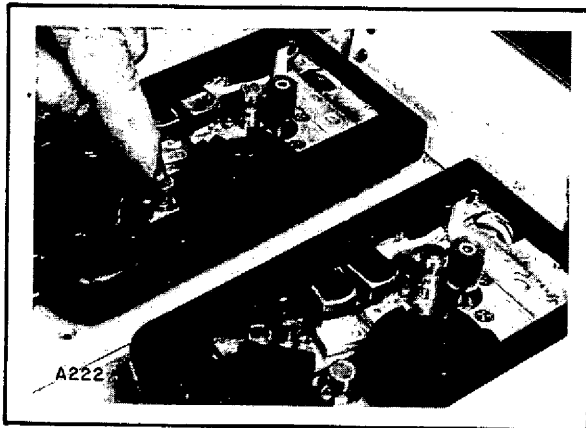

Fig. 3-6. Push Rewind Button
- a. Open the access cover and, if tape is not already rewound into the tape cartridge, push the rewind button. (See figure 3-6.)